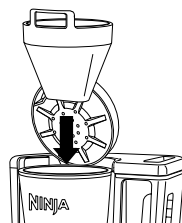

Fig. 3
- 3 Place the filter holder in the brew basket (**Fig. 3**). Then place the permanent filter or a #4 paper filter in the filter holder.